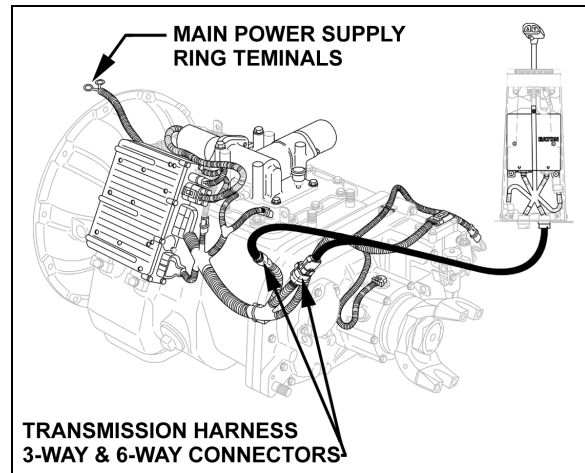

FIGURE 15: EATON TRANSMISSION CONNECTIONS⁰⁷⁰⁵¹
8. Disconnect main power supply ring terminals (Fig. 15).
9. Disconnect transmission harness 3-way and 6-way connectors (Fig. 15).